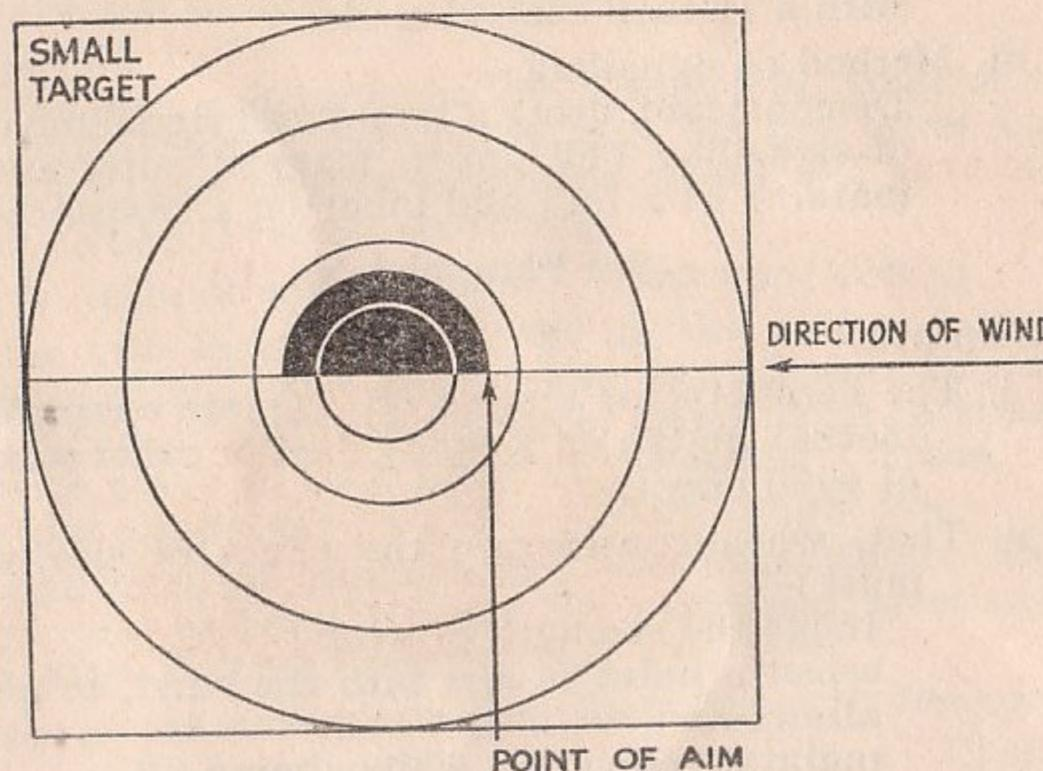

Fig 4
- The above target diagrams (Figs. 4 to 7) illustrate the point of aim required at various ranges, for a *fresh* wind blowing from the right.